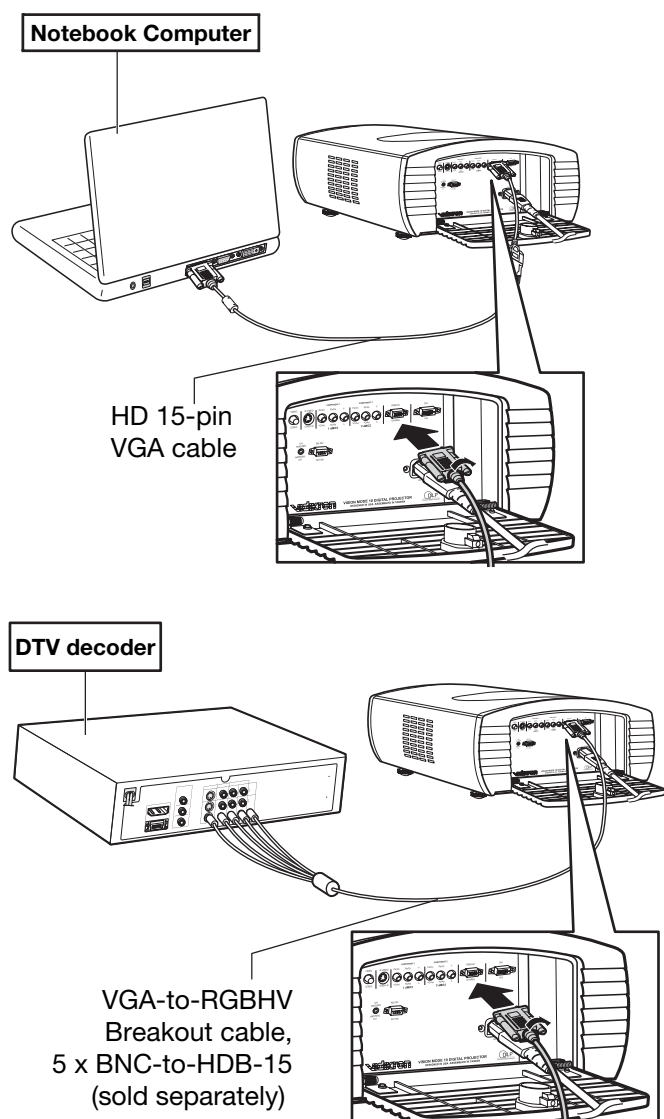

**Figure 3-9. Analog RGB Connections**
**RGB-HD Connections:** The Vision 10/12 has an RGB input for connecting a personal computer or DTV decoder with an RGB output. See Figure 3-9.